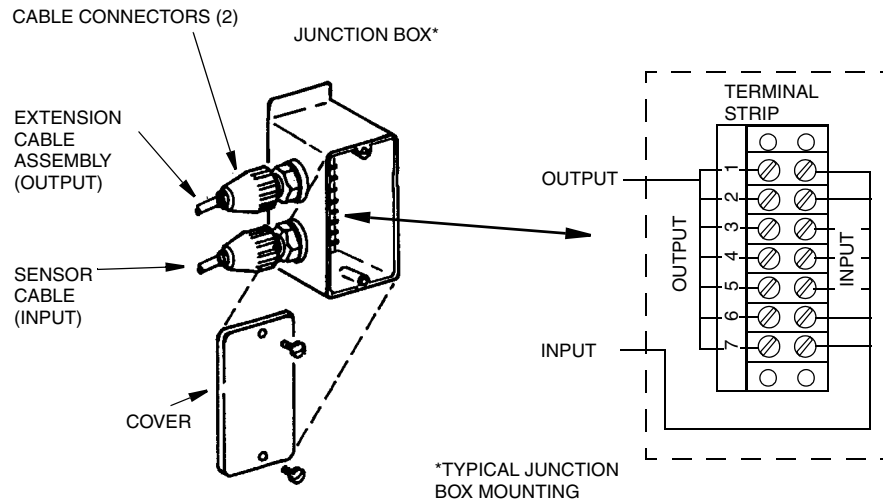

Figure 13. Junction Box Wiring
1. Remove the junction box cover and loosen the cable connectors (see Figure 13).